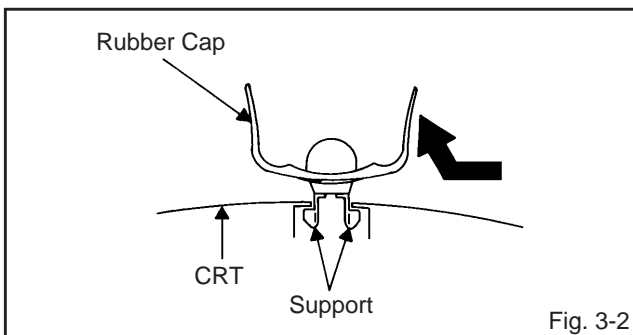

Fig. 3-2
2. Flip up the sides of the Rubber Cap in the direction of the arrow and remove one side of the support. **(Refer to Fig. 3-2.)**